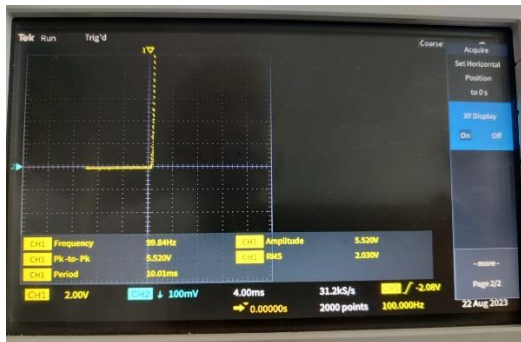

Fig. E1 – XY plot – ambient light conditions
- Sketch the XY waveform in your Lab Notebook. (See the X-Y plot image shown below (Fig.E1) for ambient light conditions).